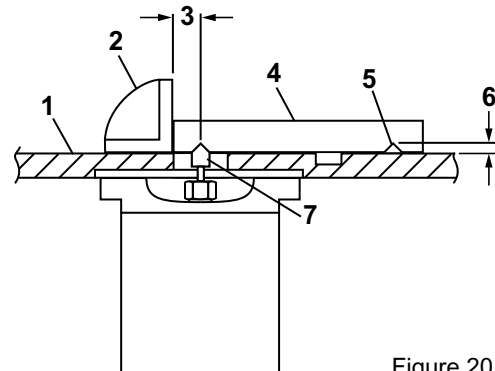

Figure 20
2. Position the right fence for the desired cutting depth (3, Figure 20).